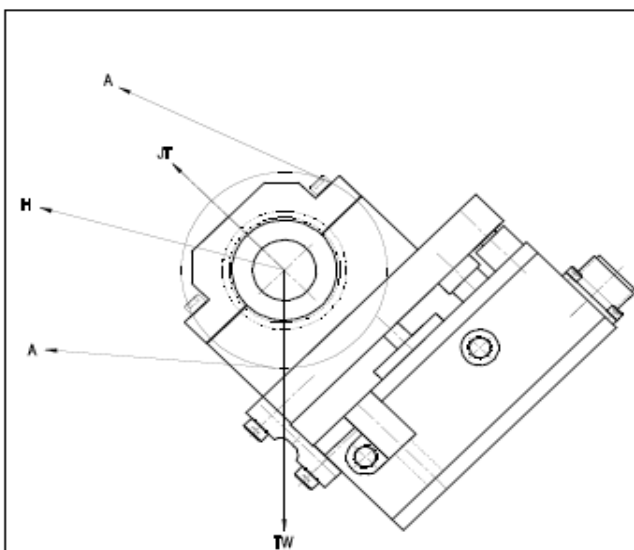

Figure 7 Tension Mode
Figures 7 & 8 below show the Tensioncell used in the tension and compression modes. In both examples, the Tensioncell is mounted so that the resultant tare force vector (TW) is through the pivot. In these cases, the Tensioncell is measuring only the Resultant Load of Web Tension.